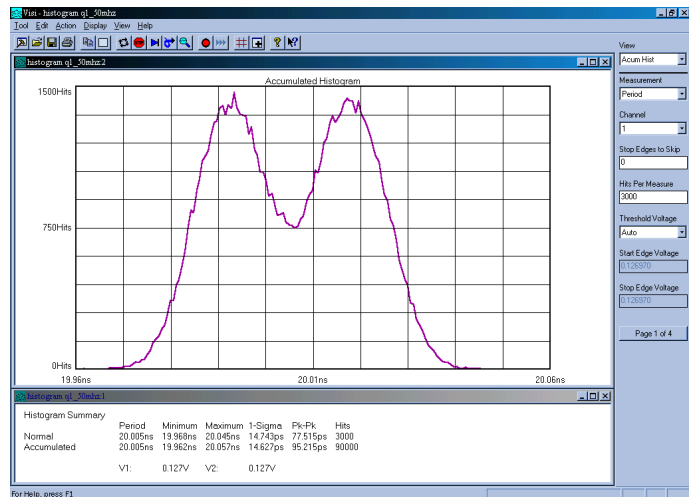
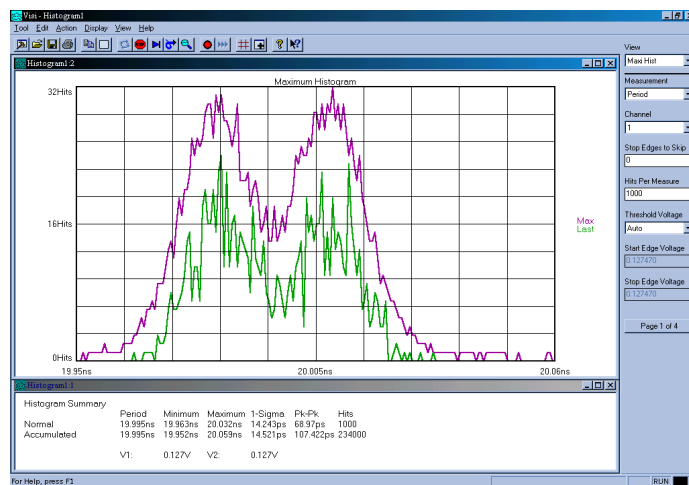
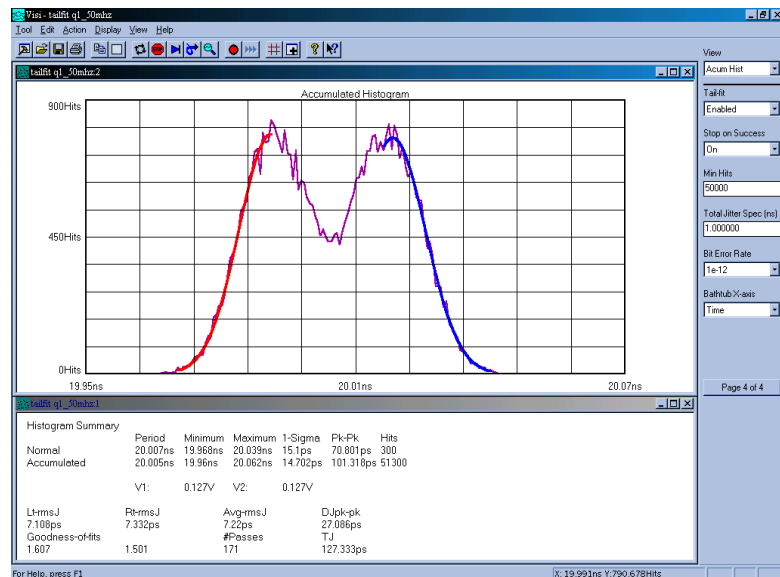

Figure 2. Histogram without TailFit™
Figure 3. Histogram using Maxi View
Figure 5. Histogram with TailFit™ enabled
If the histogram distribution is Multimodal as in Figure 2, the 1-sigma value doesn't accurately reflect the Random component of jitter. This is because the cause of a non-Gaussian distribution is Deterministic. Therefore, in the presence of DJ, the 1σ value cannot be used as the true RJ value.
The Histogram tool produces three different views: Accum, Max, Bathtub and Summary. The “Accum” view (see Figure 2) puts all measurements from multiple acquisitions into one histogram. The “Max” view (see Figure 3.) is useful to see low frequency or low probability events as outliers. Rather than auto-scaling all measurements into one histogram the most recent histogram is shown in addition to the maximum extents of all previous histograms. Period drift or wander can be seen in this view.
Both Figures 3 and 5 have about the same 1-sigma and Pk-Pk values, but Figure 5 separates the jitter into its individual components. A DJ value is now displayed in the statistics window. RJ is displayed as Left-side (Lt-rmsJ), Right-side (Rt-rmsJ), and Average (Avg-rmsJ) which can be used if the left and right RJ's are different. Note that the 1-sigma value is larger than the Avg-rmsJ which represents the true random component. A Total Jitter (TJ) value is now present in the statistics window; it is derived from the bathtub curve below.
1) The lines on this plot are inversely proportional to the TailFit™ curves in Figure 5. Here, the left line corresponds to the right tail-fit, and the right line corresponds to the left tail-fit.